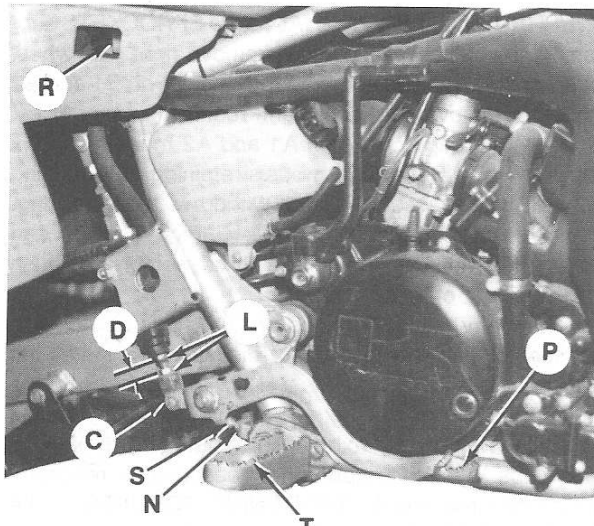

Fig. K10-29—View identifying rear brake components. Refer to text for measuring distance (D).
On B1 and B2 models, brake pedal (P—Fig. K10-29) should be 0-10 mm (0-0.4 in.) higher than footpeg (T). To adjust, loosen locknut (N) and turn stop screw (S) in to create a clearance between pedal stop and head of stop screw. Remove cotter pin and clevis pin to detach
BLEEDING. Make sure reservoir (R—Fig. K10-29) is full. Connect a bleed hose to bleed valve (B—Fig. K10-30) on brake caliper assembly. Route the bleed hose into a suitable container. Operate foot pedal (P—Fig. K10-29) until a hardness (fluid resistance) is felt, then open bleed valve (B—Fig. K10-30) (rotate counterclockwise). Close bleed valve prior to releasing foot pedal. Continue bleeding procedure until no air bubbles are noted in discharged fluid from bleed valve.
NOTE: Make sure reservoir (R—Fig. K10-29) is kept full during bleeding procedure.
3.5 mm (0.138 in.) or less or disc runout is 0.3 mm (0.012 in.) or more. After reassembly, operate brake foot pedal (P—Fig. K10-29) until pedal will not pump up after continuous operation. Do not operate vehicle until correct brake operation is noted.